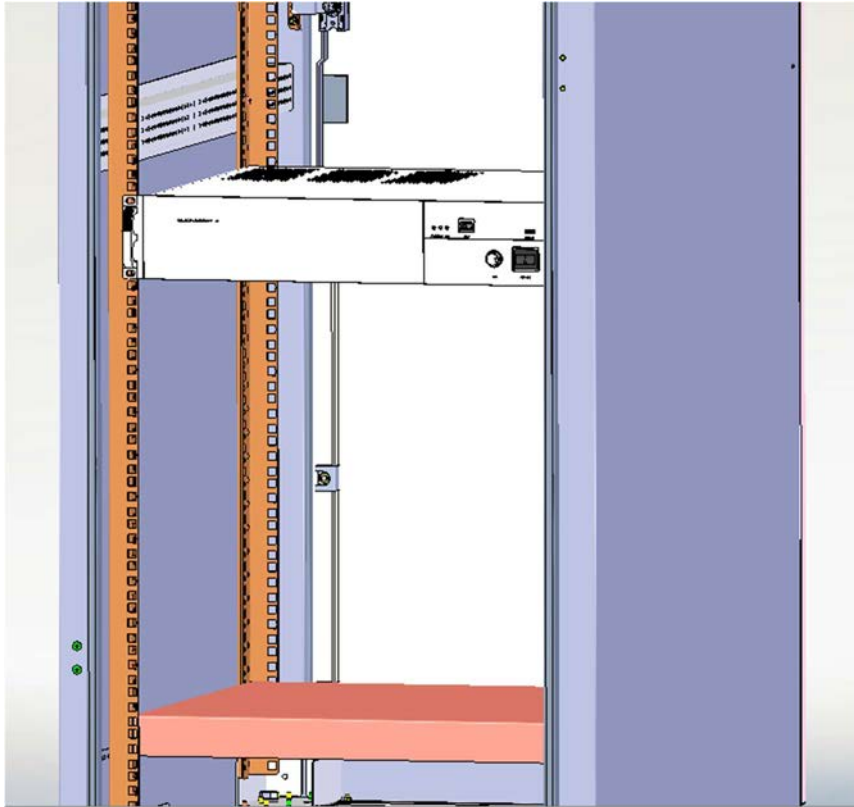

Figure 3-16
2. Push NEU into the cabinet reference to Figure 3-16.